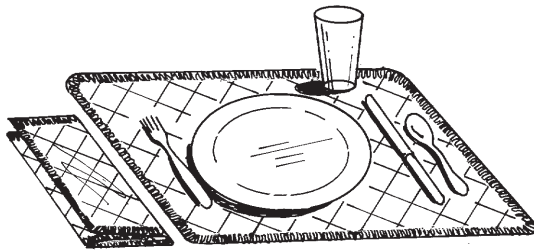

Fig. 15-5
- ❑ **Rolled edges.** On everything from napkins and placemats to the sheerest chiffon fabrics, the serger can produce a firm, attractive edge finish on only one layer of fabric. (Fig. 15-5)